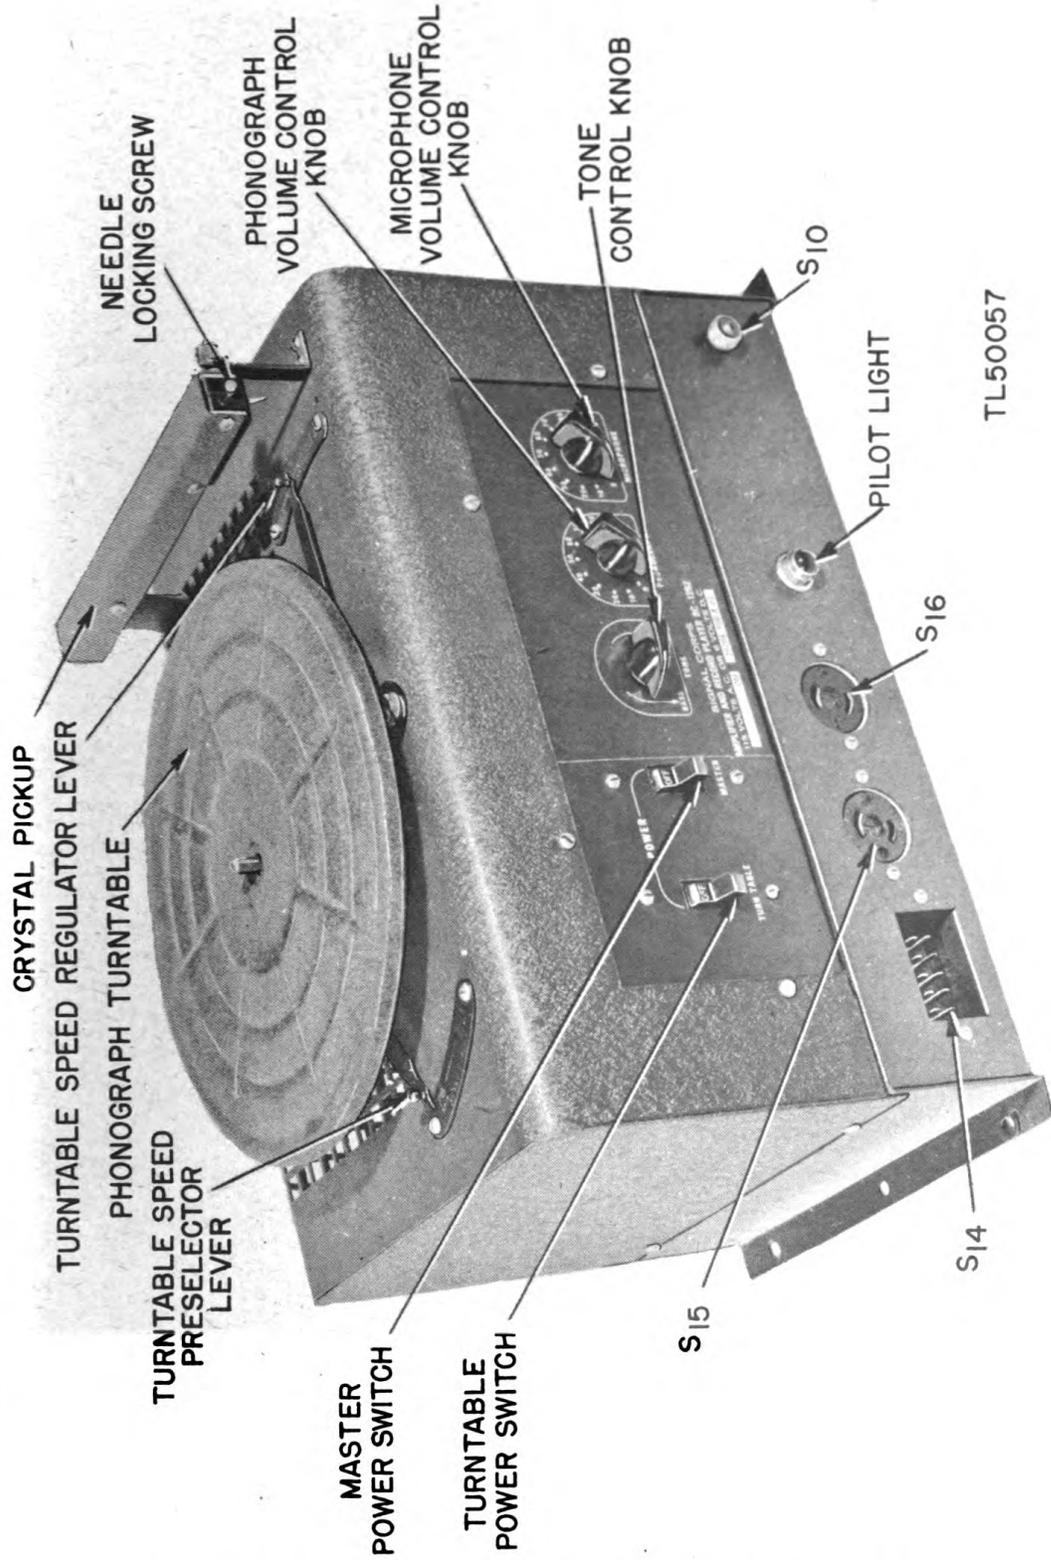

Figure 2. Amplifier and Record Player BC-1292
4. AMPLIFIER AND RECORD PLAYER BC-1292 (See figure 2).